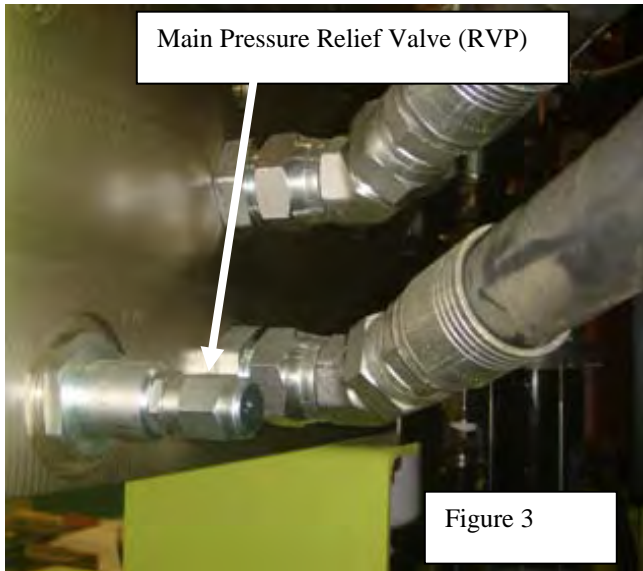

Figure 3
On the propulsion manifold opposite side of the pressure tap is the Main Relief Valve (RVP) (Figure 3). Remove protective cap and loosen lock nut on relief valve adjusting screw and turn relief valve adjusting screw to full clockwise (CW) position (maximum pressure).
Turn main relief valve adjusting screw (RVP) (Figure 3) counterclockwise (CCW) until pressure at gauge just begins to drop. This is considered cracking pressure. Turn back 1/8 of a turn and tighten nut on valve.